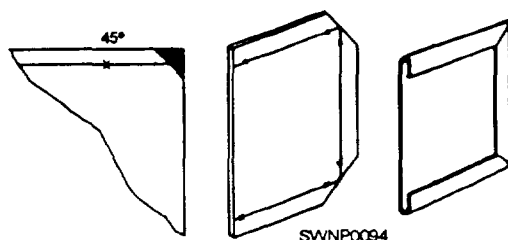

Figure 2-77.—Slant notch.
**SLANT NOTCHES** are cut at a 45-degree angle across the corner when a single hem is to meet at a 90-degree angle. Figure 2-77 shows the steps in forming a slant notch.